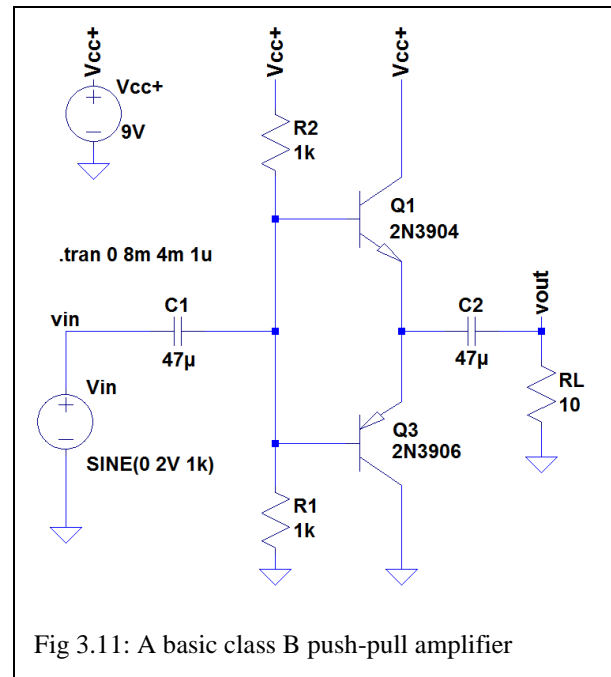
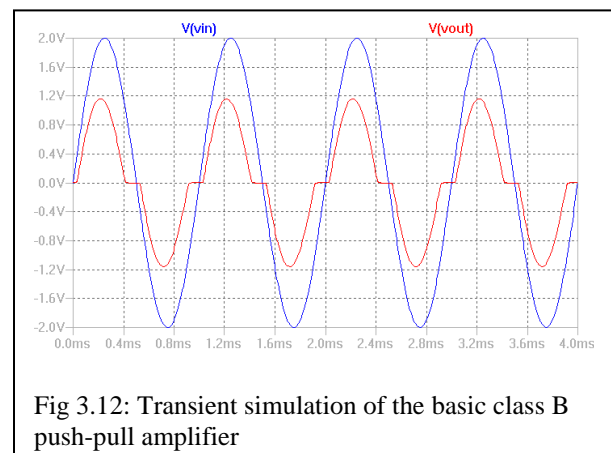
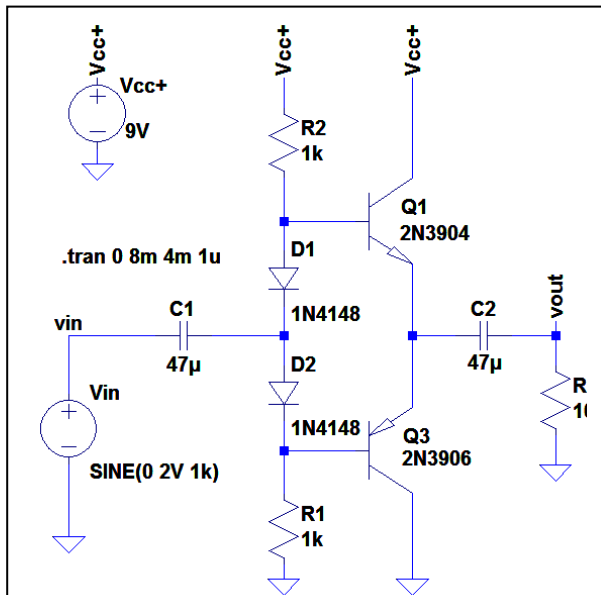

Fig 3.11: A basic class B push-pull amplifier
Fig 3.12: Transient simulation of the basic class B push-pull amplifier
Fig 3.13: A class AB push-pull amplifier. The diodes ensure the pair of transistor pn junctions are “on”.
A basic class B amplifier, in a push-pull configuration as shown in Figure 3.11, has the efficiency advantage that the npn BJT is only on during the positive half cycle, and the pnp BJT is only on during the negative half cycle. There is therefore little quiescent power dissipation in the transistor portion of the amplifier. A drawback to the class B amplifier, however, is that it takes roughly 0.7 V to turn on the forward biased pn junctions in the BJTs, so the output signal can show significant distortion (Figure 3.12).
A class AB amplifier solves the distortion problem, but doesn't have as high efficiency. As Figures 3.13 and 3.14 show, adding a pair of diodes in the base bias string ensures that there is just sufficient voltage to turn on the pair of transistor pn junctions, and the output signal is far less distorted.
These push-pull configurations are rather like a pair of emitter follower circuits; that is, the ideal voltage gain of this amplifier will be one. Thus, the circuit of Figure 3.13 would replace the CC amplifier in our 2-stage audio amp.
1. Assemble and test the "default" circuit for the basic class B push-pull amplifier (Figure 3.11).
3. Now reset VSIN to a 2 V amplitude and observe the transient output at the source and across the load. This should appear as Figure 3.12.
6. Modify the circuit of Figure 3.11 by adding a pair of 1N4148 diodes to get the circuit schematic of Figure 3.13.
1. Breadboard the class B push-pull amplifier with the 2N3904/2N3906 transistors as shown in Figure 3.11.
3. Now breadboard the class AB push-pull amplifier by adding the diodes as shown in Figure 3.13. Check the bias voltages with no input signal applied and determine the circuit's quiescent dissipated power P_Q .